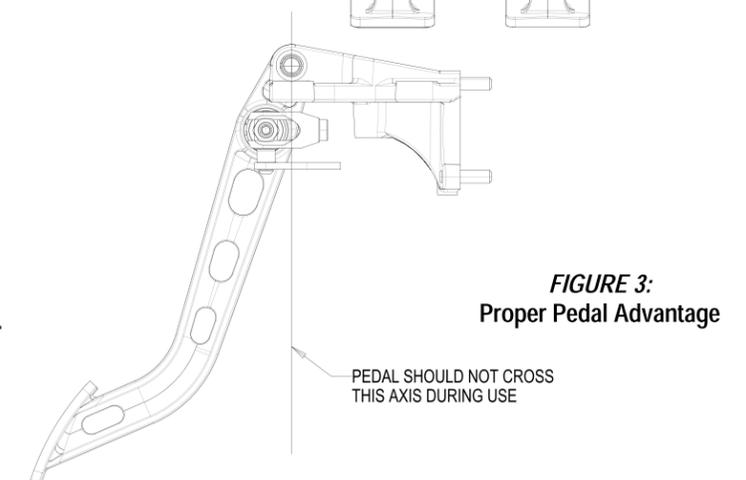

FIGURE 3:
1. Adjust the push-rod thread engagement until the position of each pedal is correct for the driver. Note that setting the pedal position such that firm pedal occurs beyond the lowest point of its stroke "downswing" is not advised. This will reduce the mechanical advantage of the pedal and affect pedal feel. Refer to Figure 3 for clarification.